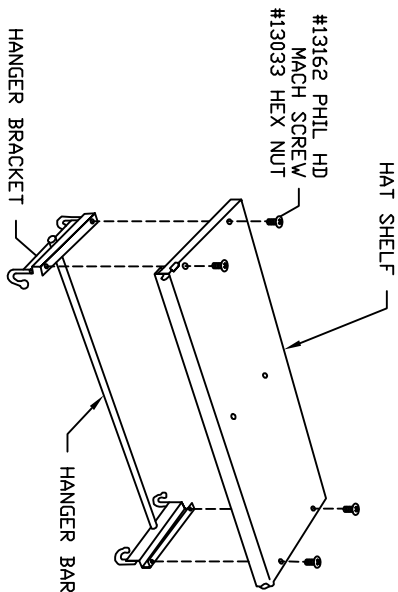

FIG. 7
2. BOLT HANGER BAR BRACKET UNDER END OF HAT SHELF AS SHOWN IN FIG. 7